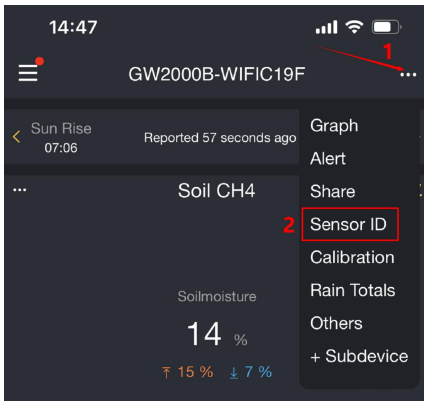

Figure 7
2. Click the upright '...' and choose 'Sensor ID', like the Figure 7.